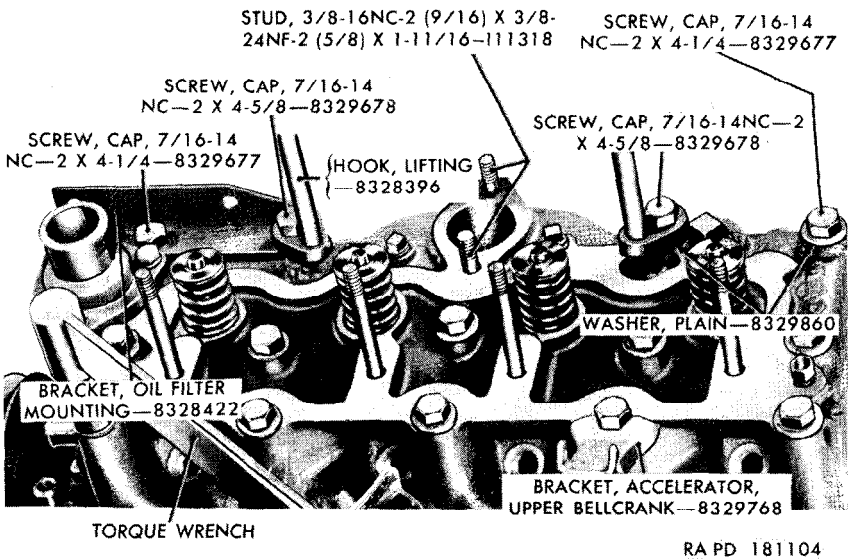

Figure 93. Installing cylinder head.
b. Using the same size cap screws, but no washers, install the upper bellcrank accelerator bracket (fig. 93) and the oil filter mounting bracket, installing cap screw in the front mounting hole only of the oil filter bracket.
c. Center a plain washer (fig. 93) on the cylinder head mounting hole, just to the rear of the carburetor mounting flange, and set the mounting feet of the engine lifting hook on the washer and on the rear end of the oil filter mounting bracket. Secure the hook in place using two $\frac{7}{16}$ -14NC-2 x $4\frac{5}{8}$ cap screws.
f. Install the two $\frac{3}{8}$ -16NC-2 ($\frac{9}{16}$) x $\frac{3}{8}$ -24NF-2 ($\frac{5}{8}$) x $1\frac{1}{16}$ studs (fig. 93) in the tapped openings on either side of the carburetor mounting boss.